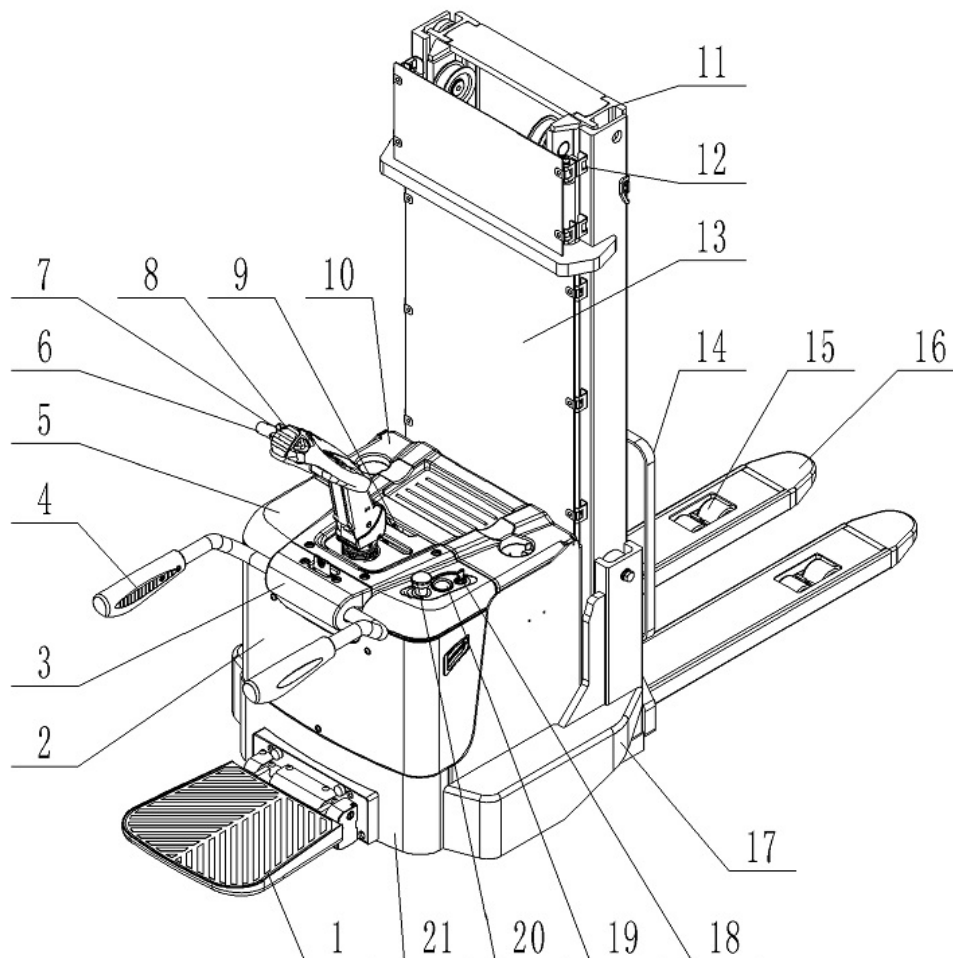

Fig. 1: Overview main components
- Use the truck without a removed protective screen (fig.1, pos. 17/ guarding).